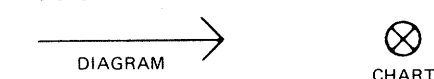

Fig. 5 — Male Connector Codes
- Male connector symbol is illustrated in Figure 5. The symbol used for the diagram and chart is shown.